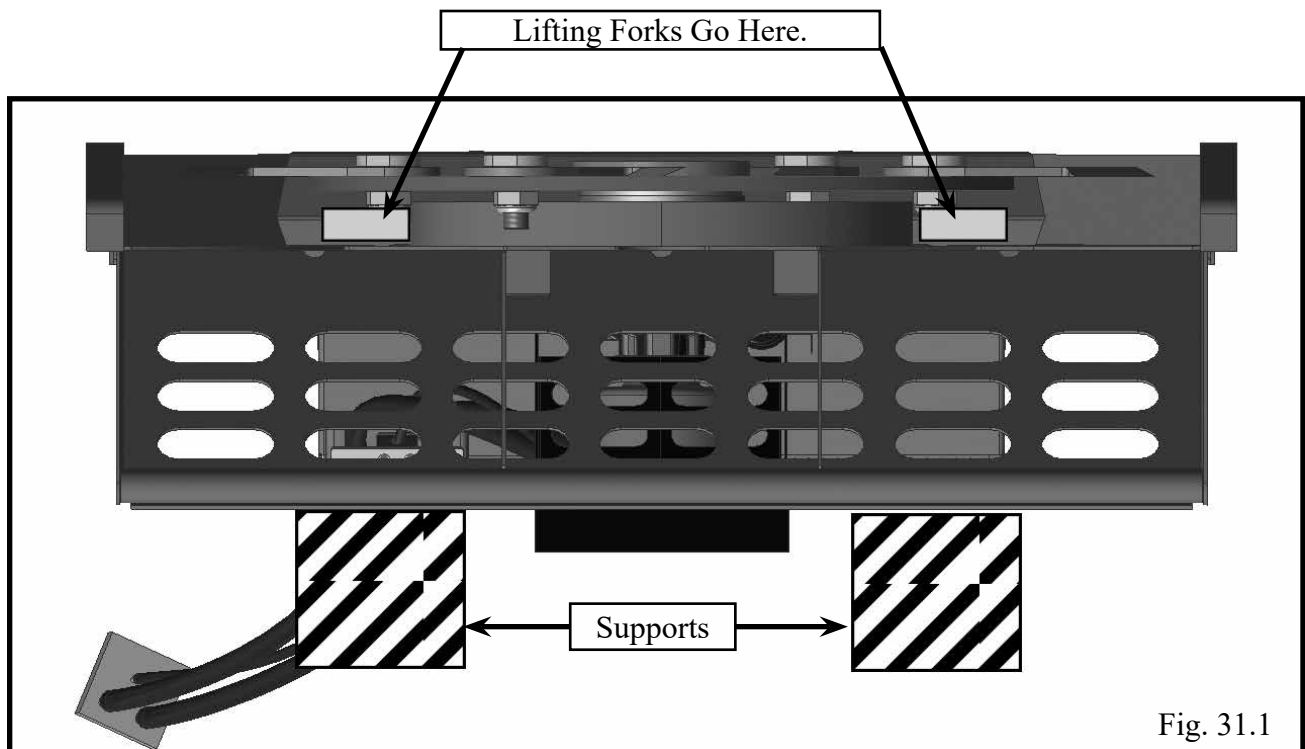

Fig. 31.1
Step 2. With the cutter deck safely supported in an upside down horizontal position, using a forklift or forklift attachment with the forklift blades 34.5” apart, place the blades below the blade bar, as shown is Fig 31.1.